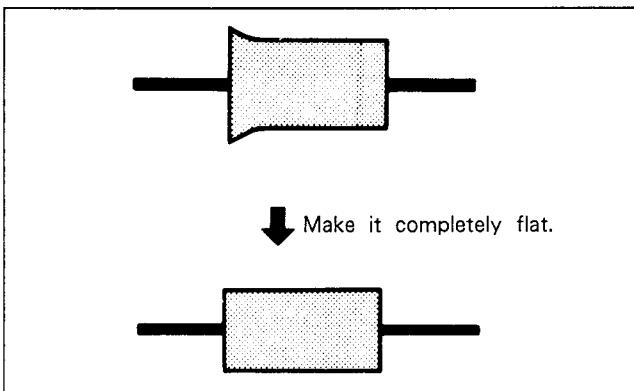

Fig. 7-77.
- 6) Flatten the waveform with No.3 guide. (See Fig. 7-77.)